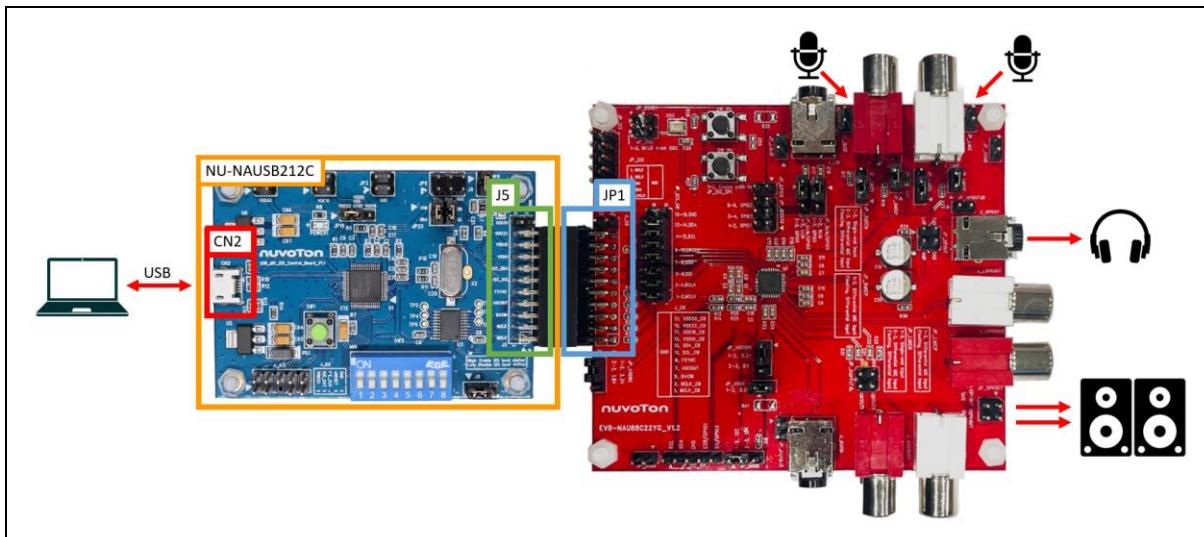

Figure 2-4 NU-NAUSB2I2C Connection
2. Connect J5 of NU-NAUSB2I2C to JP2 of NL-NAU88C22. Figure 2-4 is the diagram after two boards are connected to each other.